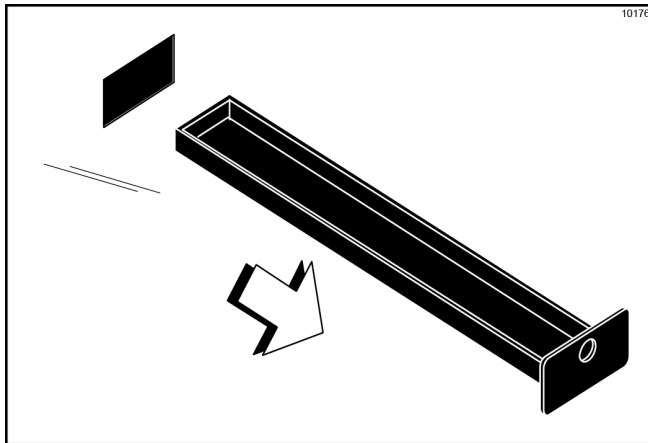

Figure-107
- Remove the two short drip pans from the rear panel. Remove the two notched drip pans from the left and right side panels. Take them to the sink for cleaning. (See Figure-107.)